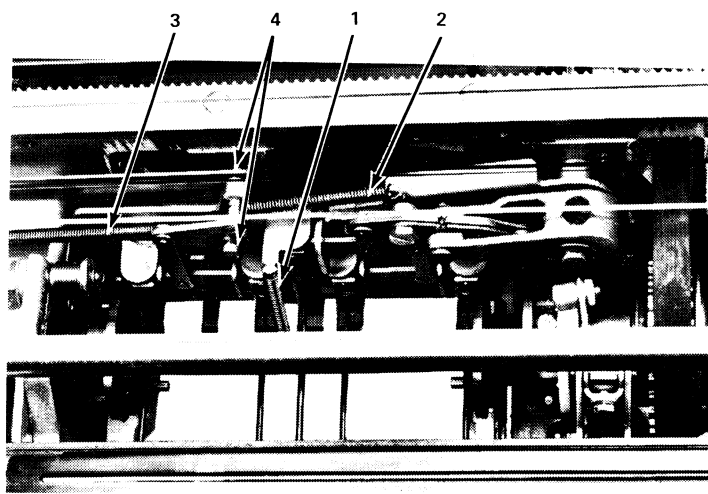

Figure 4-24. Tilt Selection Differential Removal (Top of Printer)
7. Remove the positive bail spring (No. 1, Figure 4-24).
8. Remove the tilt-differential spring (No. 2, Figure 4-24).
9. Remove the rotate-arm spring (No. 3, Figure 4-24).
10. Remove the two C-clips and remove the tilt differential assembly (No. 4, Figure 4-24).